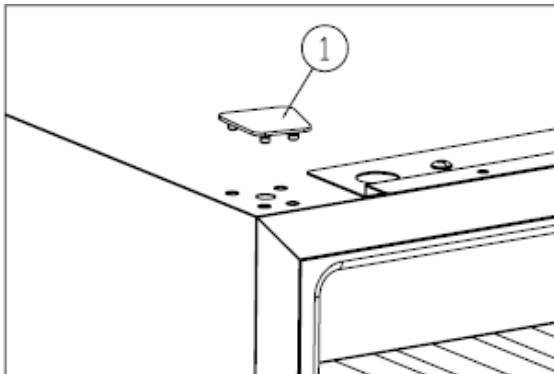

Figure 3
- ✧ Remove the germinal lid①. [Figure 3]